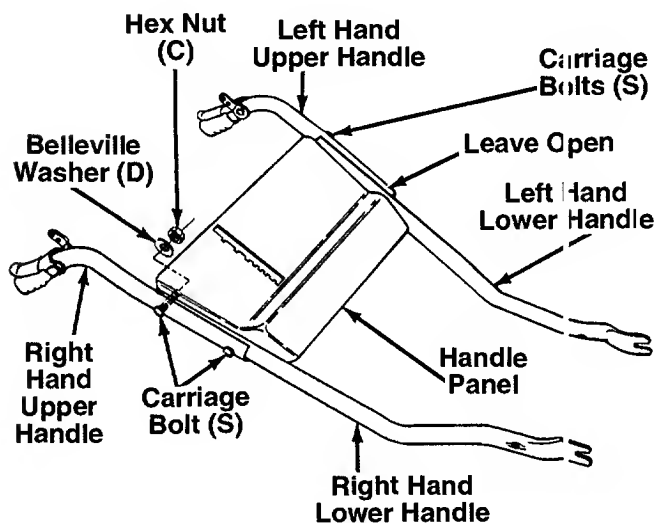

FIGURE 4.
3. Preassemble the handles to the handle panel as follows. See figure 4.
- a. Place two carriage bolts (S) through the right hand upper and lower handles (both carriage bolts go through both handles).
- c. Secure with two belleville washers (D) (cupped side of washer against the handle panel) and hex nuts (C). Do not tighten at this time.